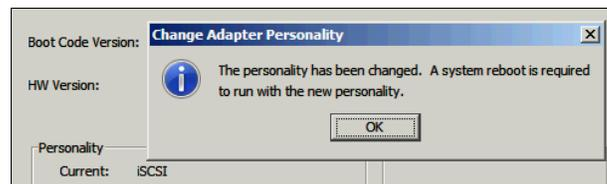

Figure 10-76 Change Adapter Personality dialog box
4. When prompted to restart your system (Figure 10-76), click **OK**.